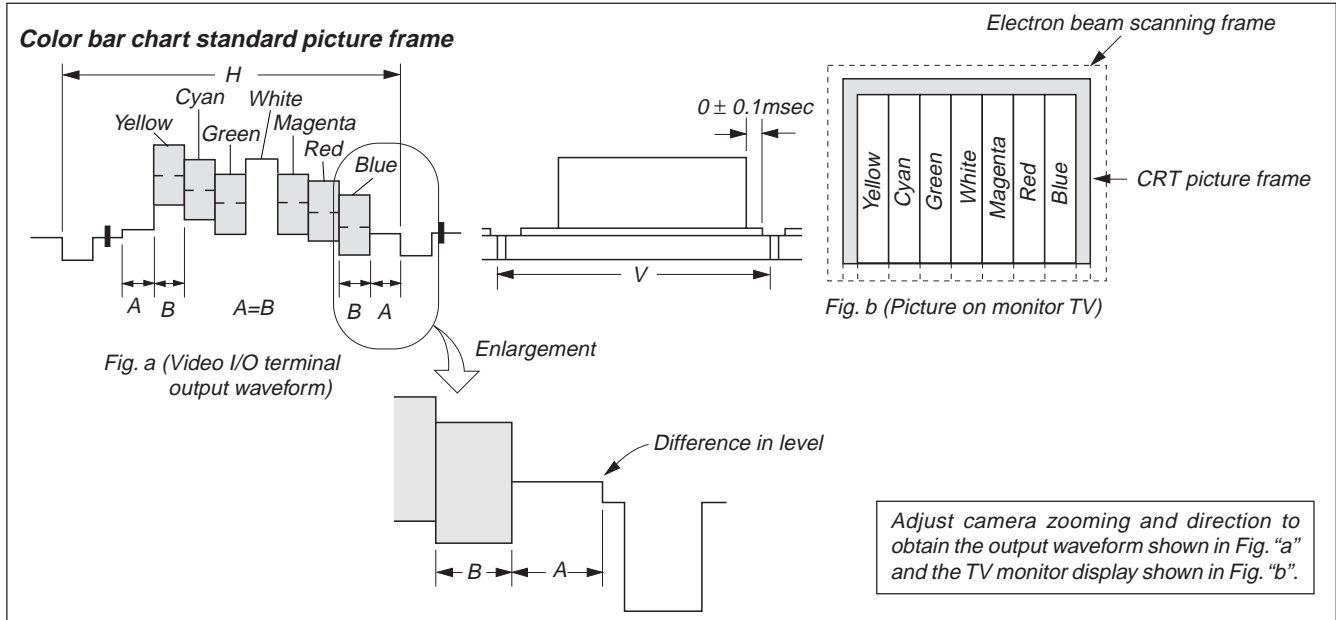

Fig. 5-1-5
- Adjust the picture frame as shown in Fig. 5-1-5.
- Adjust camera zooming and direction until the camera output waveform on the oscilloscope shown in Fig. 5-1-5 (a) and the color picture on the monitor TV shown in Fig. 5-1-5 (b) have been acquired.